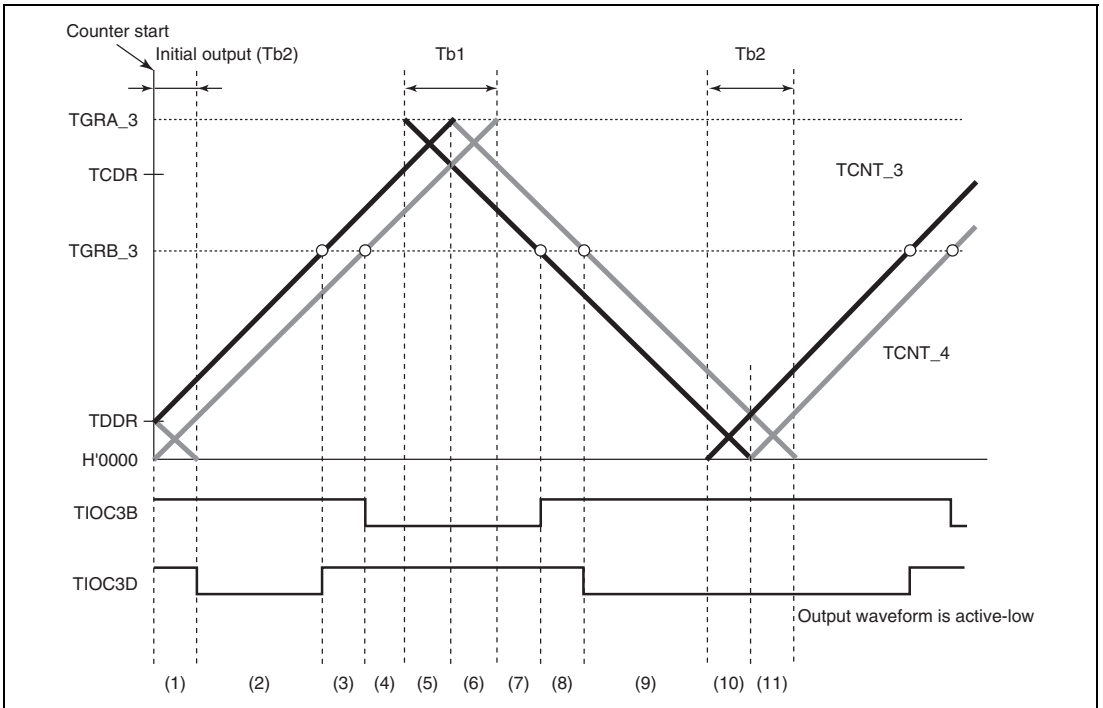
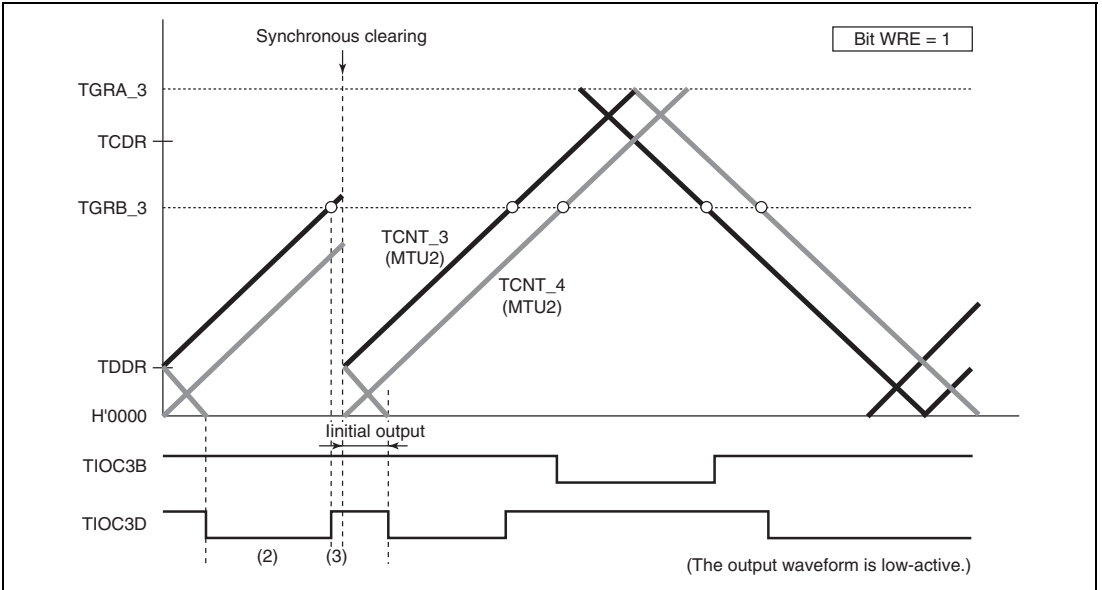
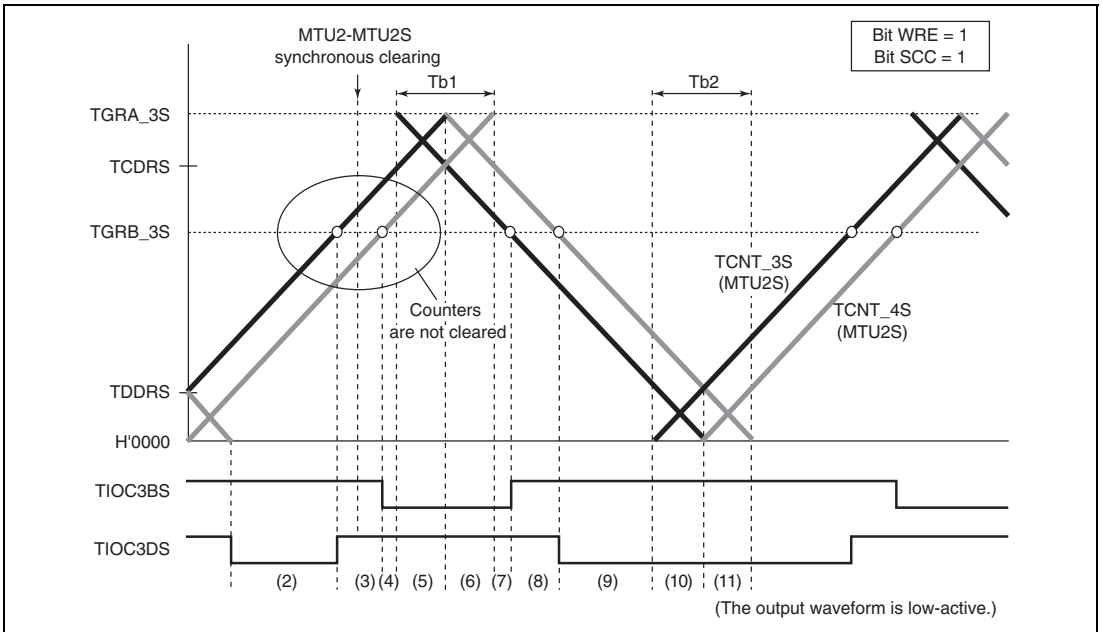

Figure 11.56 Timing for Synchronous Counter Clearing
Figure 11.58 Example of Synchronous Clearing in Dead Time during Up-Counting (Timing (3) in Figure 11.56; Bit WRE of TWCR in MTU2 Is 1)
Figure 11.64 Example of Synchronous Clearing in Dead Time during Up-Counting (Timing (3) in Figure 11.56; Bit WRE Is 1 and Bit SCC Is 1 in TWCRS of MTU2S)
Initial output suppression is applicable only when synchronous clearing occurs in the Tb2 interval as indicated by (10) or (11) in figure 11.56. When synchronous clearing occurs outside that interval, the initial value specified by the OLS bits in TOCR is output. Even in the Tb2 interval, if synchronous clearing occurs in the initial value output period (indicated by (1) in figure 11.56) immediately after the counters start operation, initial value output is not suppressed.
Figures 11.58 to 11.61 show examples of output waveform control in which the MTU2 operates in complementary PWM mode and synchronous counter clearing is generated while the WRE bit in TWCR is set to 1. In the examples shown in figures 11.58 to 11.61, synchronous counter clearing occurs at timing (3), (6), (8), and (11) shown in figure 11.56, respectively.
(Timing (8) in Figure 11.56; Bit WRE of TWCR Is 1)
(Timing (11) in Figure 11.56; Bit WRE of TWCR Is 1)
Figures 11.64 to 11.67 show examples of operation in which the MTU2S operates in complementary PWM mode and MTU2–MTU2S synchronous counter clearing is suppressed by setting the SCC bit in TWCRS in the MTU2S to 1. In the examples shown in figures 11.64 to 11.67, synchronous counter clearing occurs at timing (3), (6), (8), and (11) shown in figure 11.56, respectively.
(Timing (6) in Figure 11.56; Bit WRE Is 1 and Bit SCC Is 1 in TWCRS of MTU2S)
(Timing (11) in Figure 11.56; Bit WRE Is 1 and Bit SCC Is 1 in TWCRS of MTU2S)